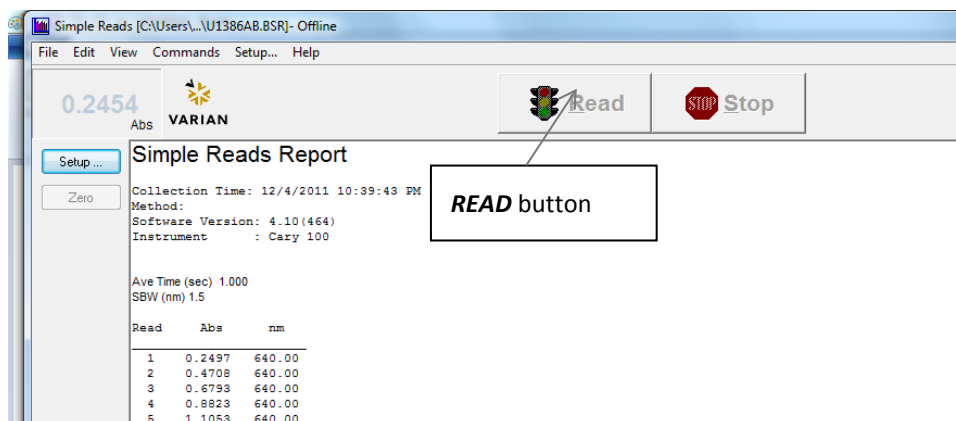

Figure 6. Measuring Samples.
4. The result of the sample read appears in the **Report** area and includes the ordinate reading obtained and the wavelength at which the reading was measured (**Figure 6**).